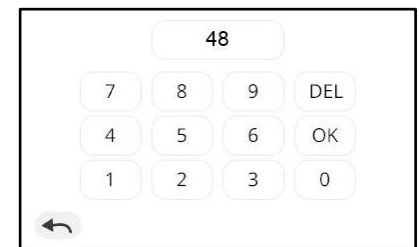

Figure 3. Keypad
- **Keypad (3)**: by clicking on the number, a keypad will appear (**Figure 3**). A percentage 0%-100% can be introduced by using it. You can erase a digit by pressing 'DEL'. Press 'OK' to confirm the percentage. If the value introduced is higher than 100%, it will be replaced by the previous valid percentage.